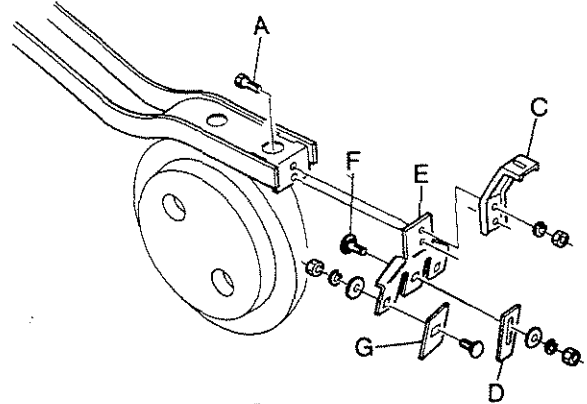

Figure 4
3. Reattach inside scraper (D) onto new outside scraper mount (E) with 3/8" x 1" long step bolt (F), washers and hex nut (see figure 4).
4. Reposition new scraper assembly behind press wheel spring mounting channel (C) and attach to opener frame with 5/16" x 1 1/4" long hex bolts (A), washers and hex nuts. **BE SURE ANGLE OF NEW SCRAPER MOUNT (D) POINTS INWARD TOWARD CENTER OF OPENER DISK.**
5. Install scraper blade (G) on each wing of scraper mount (E) with 5/16" x 3/4" long carriage bolt, washers and hex nut. Adjust scraper blades to have **MINIMUM CLEARANCE** with disk openers and rubber-tired depth-control wheel.